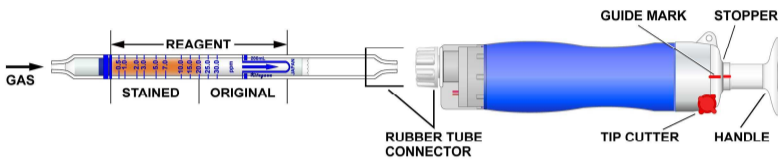

Fig.1
- ② Insert the detector tube into the aspirating pump securely as shown in Fig.1. (Arrow mark shall point to the pump.)
- ③ Align the guide marks on the shaft and stopper of the aspirating pump.
- ④ Pull the pump handle at full stroke until it locks and wait for 45 seconds or until the completion of sampling is confirmed with the flow indicator of the pump. (See descriptions about the flow indicator in the instruction manual of the pump.)
- ⑤ Turn the pump handle right or left by 1/4 (90°), push it towards the pump without removing the detector tube from the inlet and turn it right or left by 1/4 (90°) and repeat the steps ③ to ④ once again.
- ⑥ On completion of sampling, read the scale at the maximum point of the stained layer.